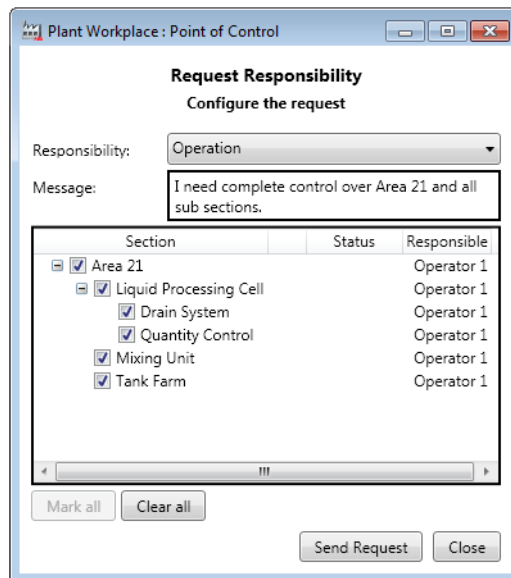

Figure 27. Request Responsibility Dialog
3. In the Request Responsibility dialog (Figure 27), select responsibility. The Operation responsibility is selected by default.